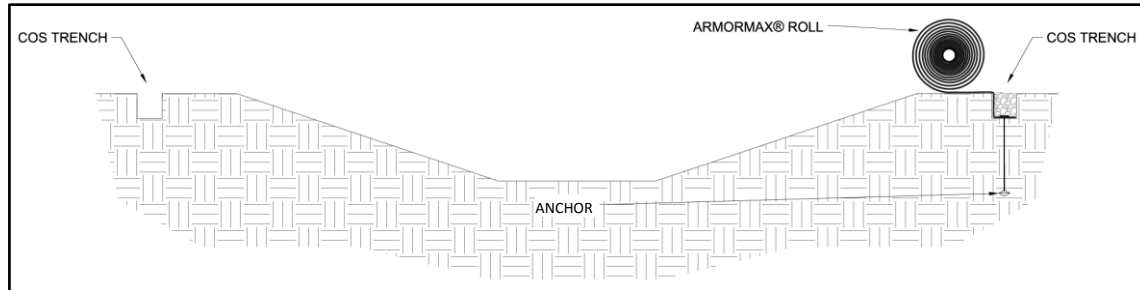

**Figure 7 - Initial Channel (IC) Trench Complete**
6. Fold the ARMORMAX panel over the top of the compacted IC trench (Figure 7) and place each panel end into the respective COS trenches.